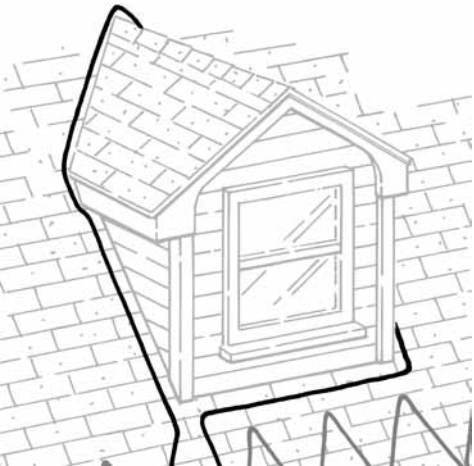

Figure 7. Cable pattern around a dormer
- Pattern for dormers:** To treat a problem dormer area, the cable should be arranged up and around the dormer as shown in Figure 7.